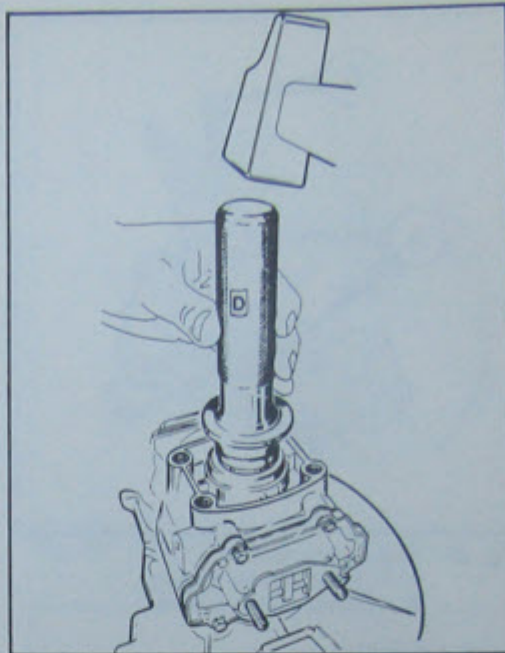

Fig. 36 Fitting oil seal p.t.o. side
- Fit the oil seal in its seat with special tool «D» (see Fig. 36).